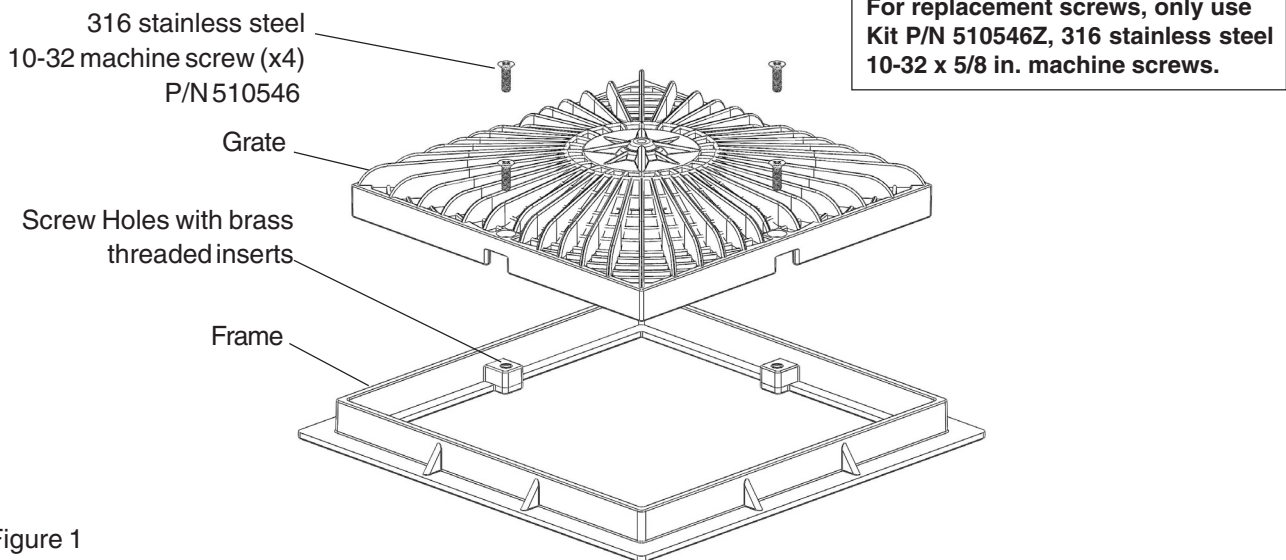

Figure 1
- Seat the drain grate inside the frame on top of the suction outlet (see Figure 1).
- Install the four (4) 316 stainless steel 10-32 machine screws (provided) for the 9"x9" and 12"x12" grate (16 screws for the 18"x18" and 24"x24" grate) into the holes in the top of the grate. Using a No. 2 Philips head screwdriver, tighten each retaining screw to a **torque value of 10.00 (minimum) to 15.0 (maximum) in-lbs** to secure the grate. DO NOT OVER TIGHTEN THE SCREWS. DO NOT ASSEMBLE WITH POWER TOOLS.